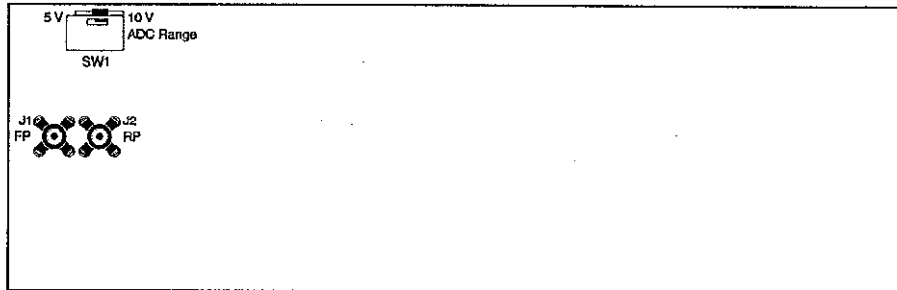

Figure 5 MCA Board
4. Plug the front panel signal cable into the board's J1 connector and the rear panel signal cable into the J2 connector. Refer to Figure 5, MCA Board, on page 7 for connector locations.